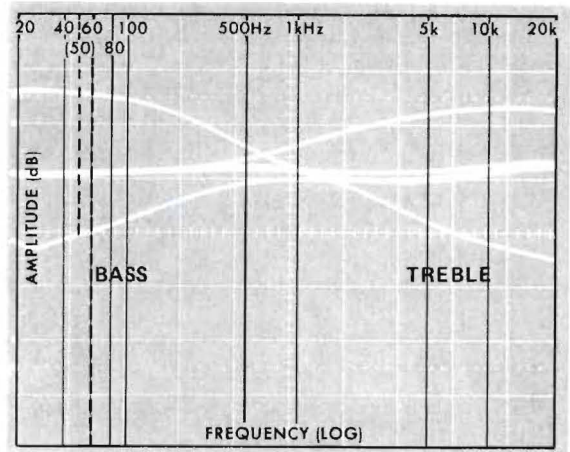

Figure 15 Tone Control Ranges
8. The range and effect of the tone control and filters can be checked by varying these controls. If the 5L4N mainframe has storage or a camera is available, sequential displays of responses can be "built up" as shown in Figure 15.